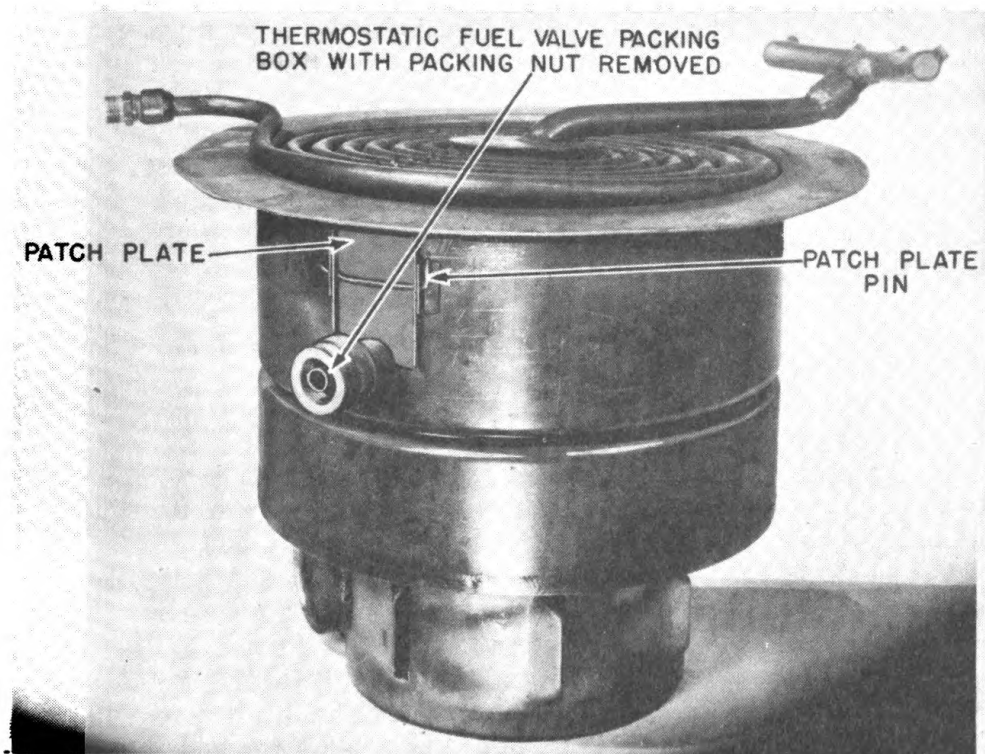

Fig 75. Combustion chamber and coil assembly.
h. Lift out coil assembly and combustion chamber as one unit (fig 75). To do this, grasp smoke discharge manifold with one hand, inlet pipe with the other, and move unit up and away from generator in order to disengage thermostatic fuel valve tubing from hole in air casing through which it normally projects.
i. Twist and pull out patch plate pin (fig 75) by applying constant pressure. Avoid straightening it.
b. Replace patch plate by inserting and bending patch plate pin. (Fig 75)